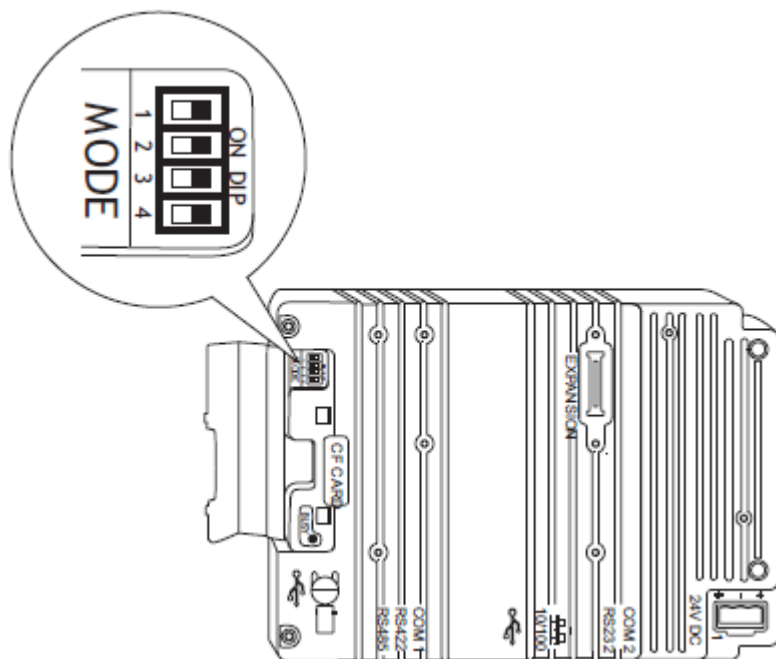

Figure 2-6: Mode switches
- All mode switches (see Figure 2-6) must be in OFF position during operator panel use.